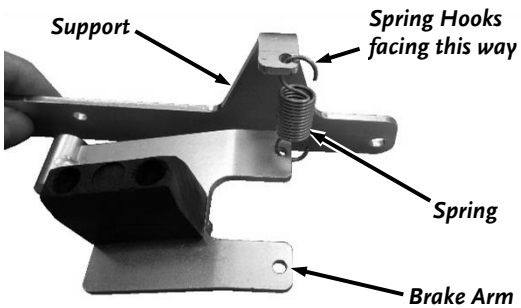

Figure 3
2. Install one end of the Spring hook into the small hole in the Support and the other Spring hook into the lower small hole in the Brake Arm with the Hooks facing out (**Figure 3**).